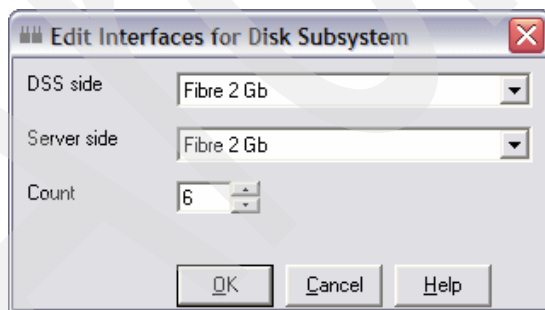

Figure 4-33 Inserting the DS host ports: Edit Interfaces for Disk Subsystem
- d. In the Edit Interfaces for Disk Subsystem window (Figure 4-33), for Count, enter the planned number of DS ports, and click **OK**.